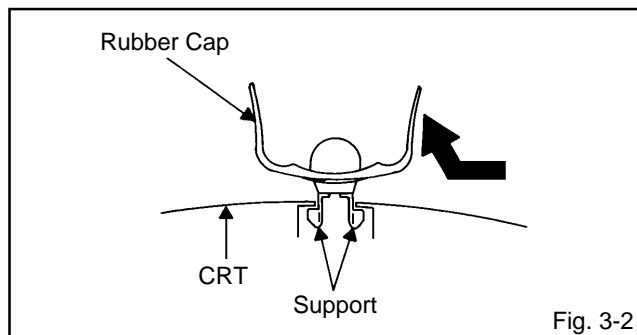

Fig. 3-2
2. Flip up the sides of the Rubber Cap in the direction of the arrow and remove one side of the support. (Refer to Fig. 3-2.)